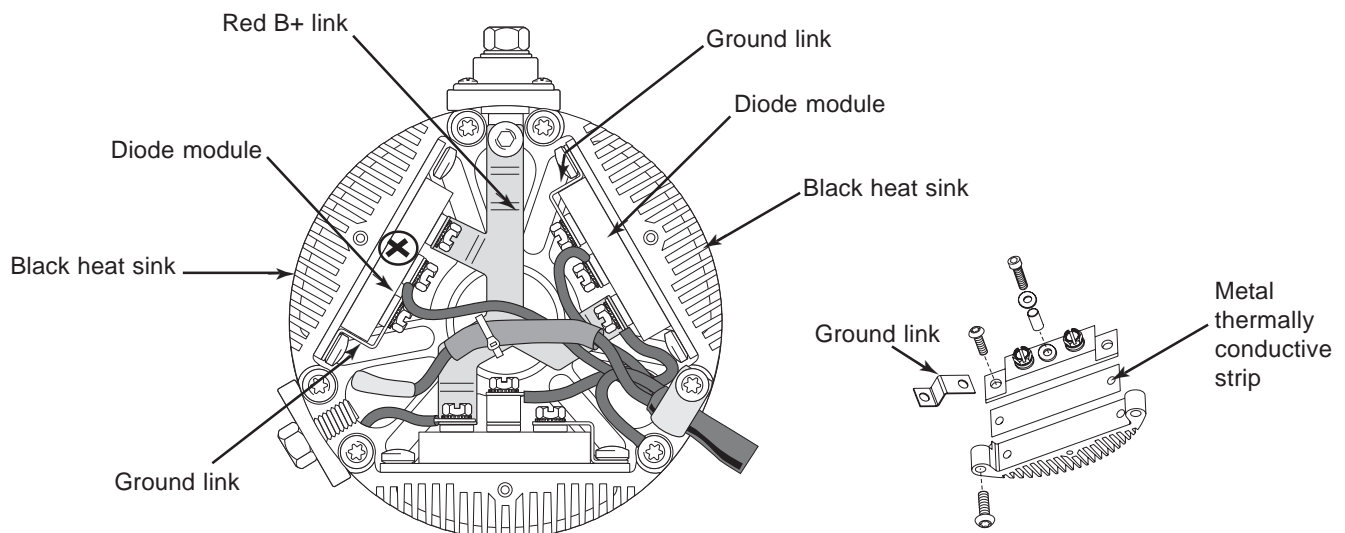
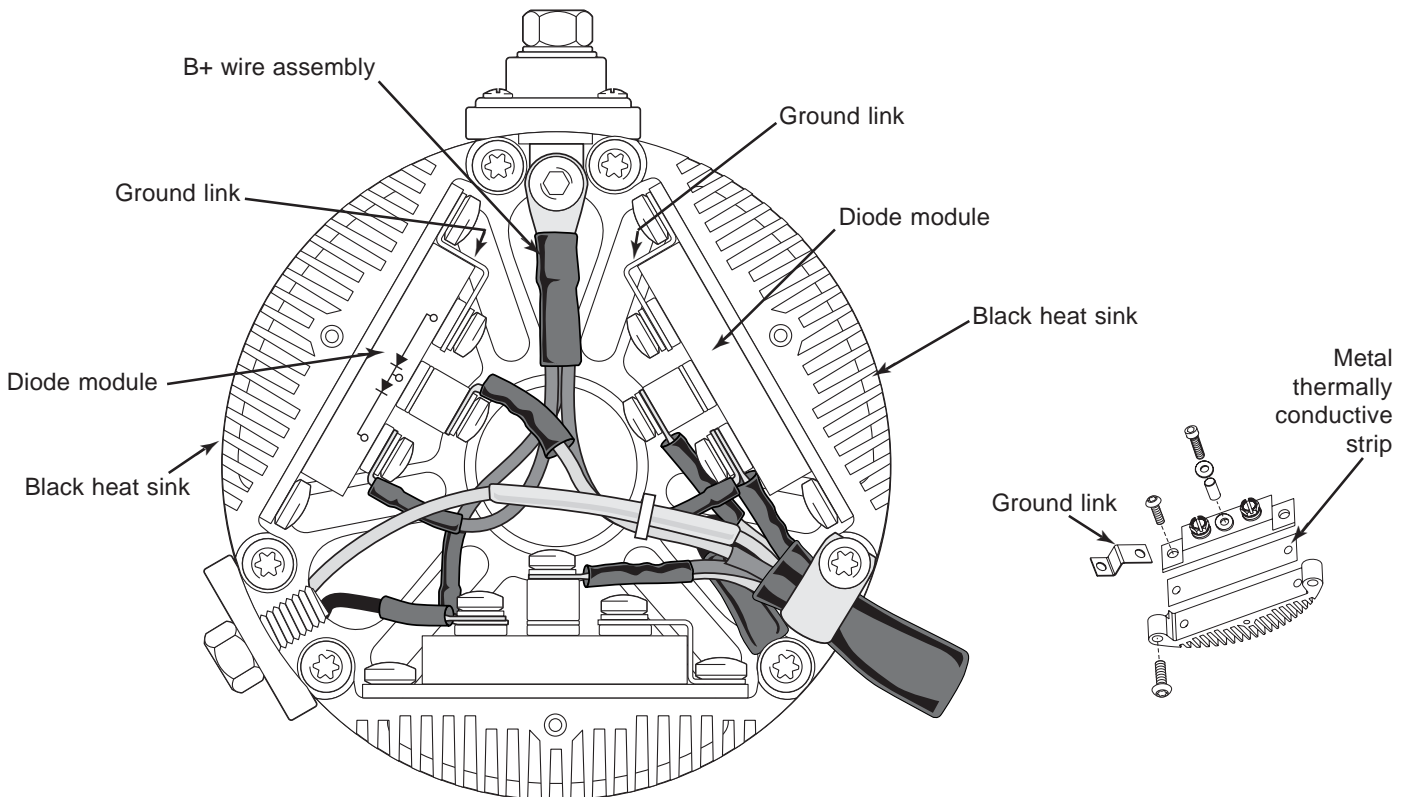

Figure 1 – N1128-1 Alternator with Red B+ Link
Figure 2 – N1128-1 Alternator with B+ Wire Assembly
**If red B+ link needs to be replaced (see Figure 1):**
4. Remove and save the hardware attaching the diode module marked with an "X" in Figure 1 and the ground link connected to it. Discard the metal thermally conductive strip between the diode module and the black heat sink and replace with a new one. Rotate the diode module so the printed diode schematic side is on top. Reinstall the ground link in the position shown in Figure 2 on page 2. Torque diode module mounting screws to 12.5-13.6 Nm/ 9-10 lb. ft.
**If diode module needs to be replaced (see Figure 1):**
2. If replacing diode module marked with an "X" in Figure 1, follow step 4 in "If red B+ link needs to be replaced" above to install the new diode module on the existing black heat sink.
If replacing one of the other two diode modules, the diode module marked with an "X" in Figure 1 must still be changed as described in step 4, since the new B+ wire assembly will be replacing the existing B+ link. Then follow the same steps to replace the other defective diode module, but don't rotate the new diode module.
### If B+ wire assembly needs to be replaced (see Figure 2):
### If diode module needs to be replaced (see Figure 2):
3. Remove and save the hardware attaching the defective diode module and the ground link connected to it. Discard the metal thermally conductive strip between the diode module and the black heat sink and replace with a new one. Reinstall the ground link in the position shown in Figure 2 below. Torque diode module mounting screws to 12.5-13.6 Nm/ 9-10 lb. ft.